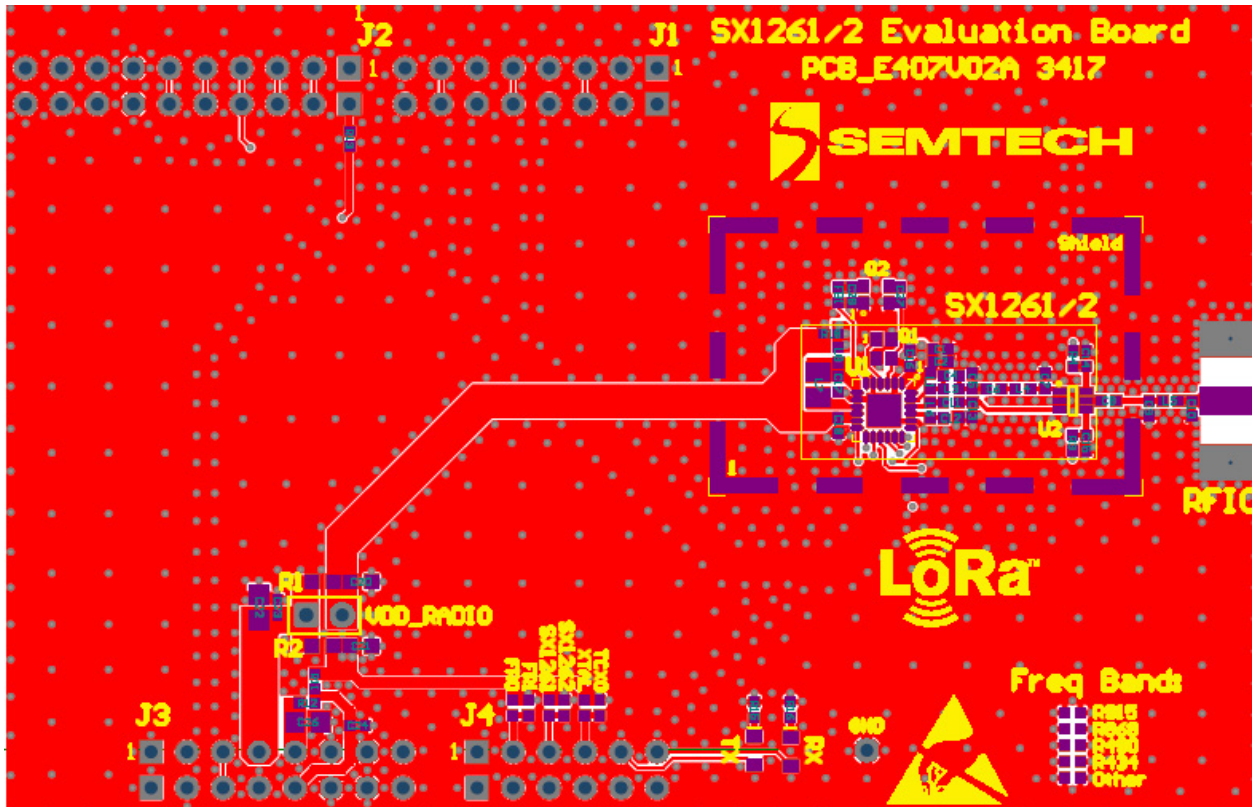

Figure 4: SX1261/2 Evaluation Board
- 4-layer PCB similar to the PCB presented in *Figure 4: SX1261/2 Evaluation Board*